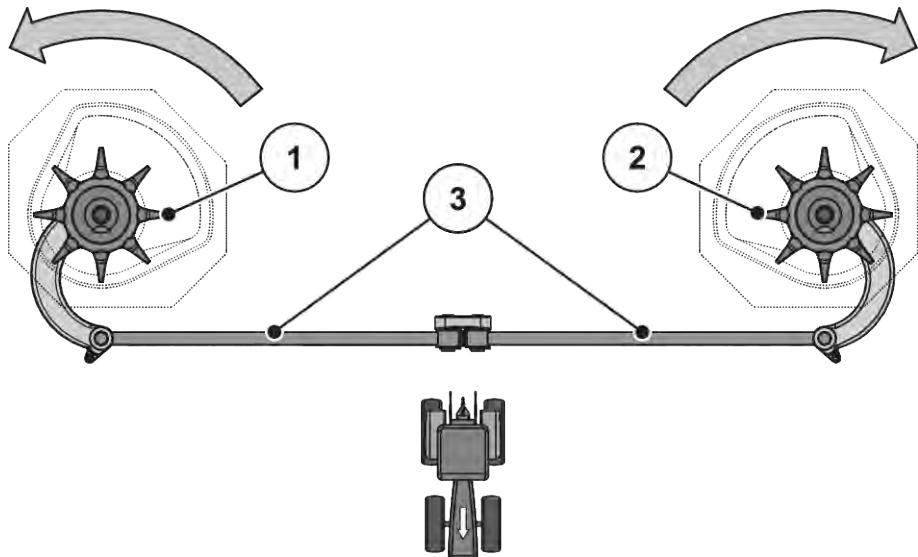

Fig. 93: Checking the agitator drive
- Manually turn the agitator head **into the rotational direction of the spreading disc**. See Fig. 93 *Checking the agitator drive*.
- Turn the agitator head manually or with the help of an oil filter belt forcefully **against the rotational direction of the spreading disc**. See Fig. 93 *Checking the agitator drive*